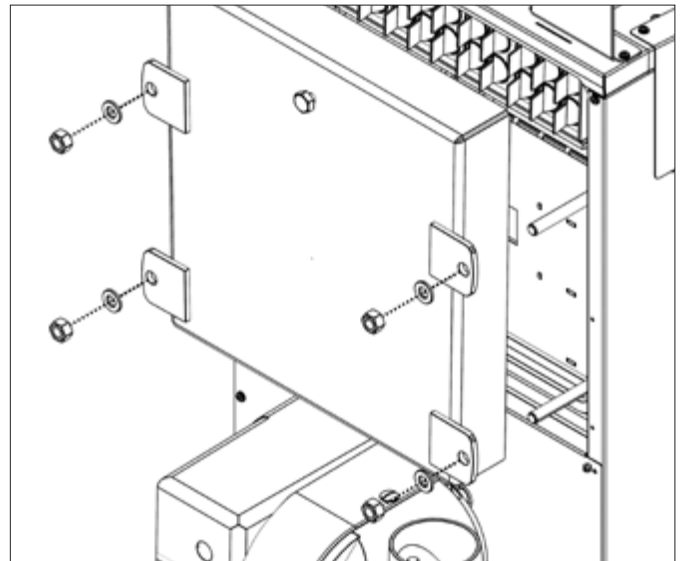

Figure 10-3: Removing the front cleaning door (26/35 model)
3. Unscrew and remove the nuts and washers securing the front cleaning door. Remove the door from the boiler - take care as it is HEAVY! Refer to Figure 10-3.